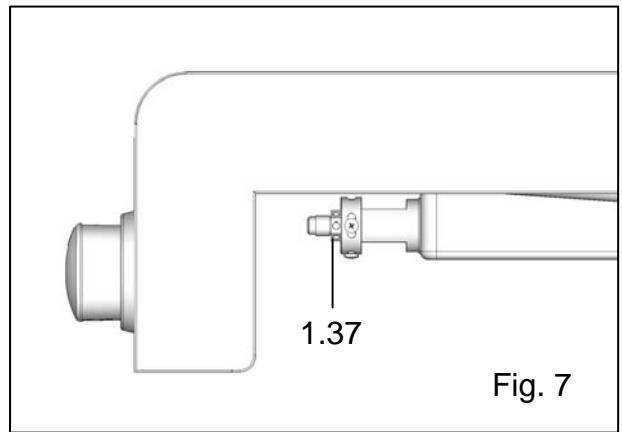

Fig. 7
**Make sure you are using the correct orifice, marked "1.37". (Fig. 7)**